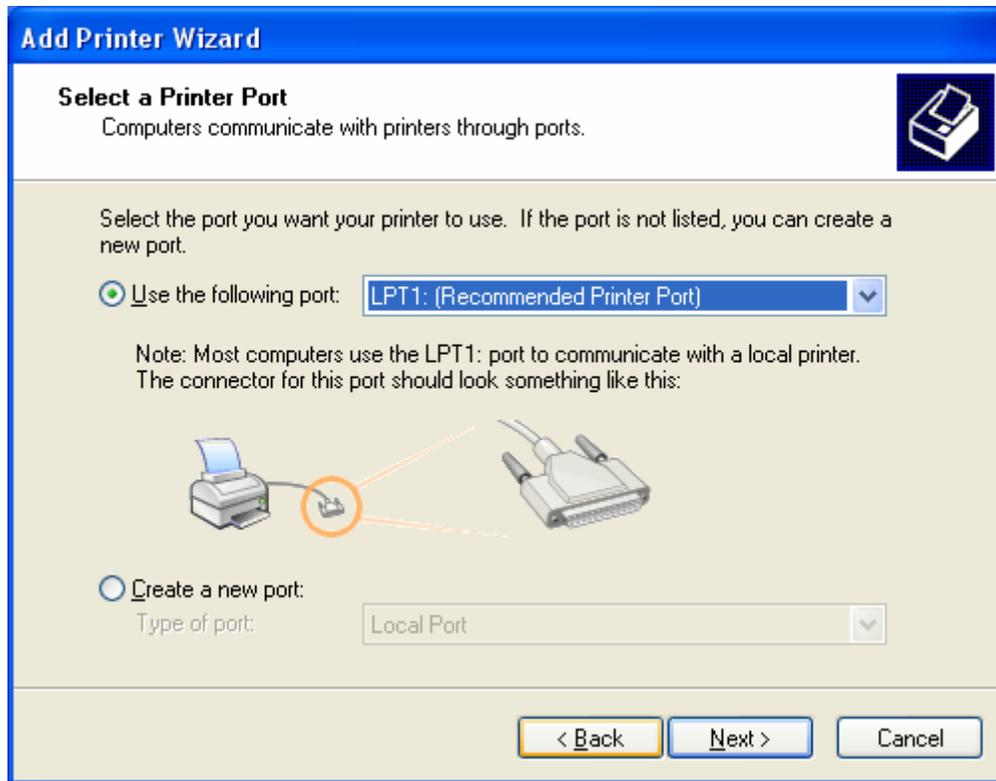

Fig. 4-6 Print Driver Installation
STEP 7: Select a Printer Port, and choose **NEXT STEP**. (see fig. 4-6)